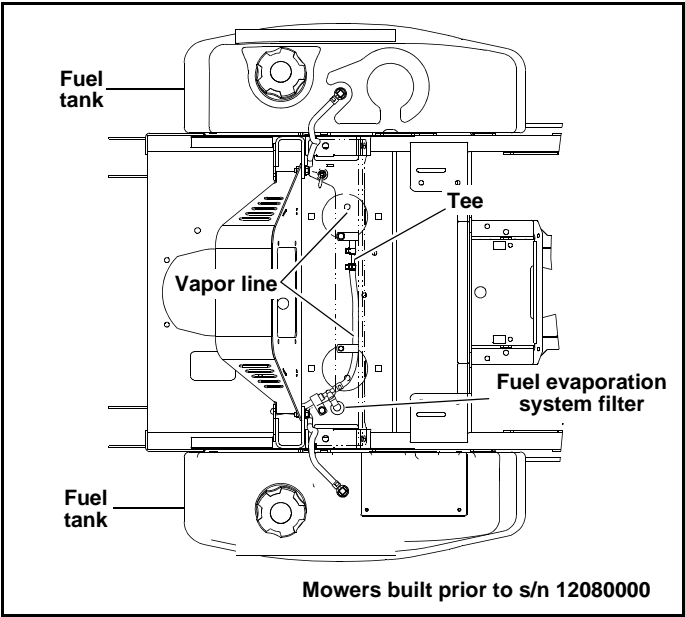

Figure 5-7
**On mowers produced prior to s/n 12080000** the vapor line is connected to the port in the top of the fuel tank. It connects the fuel tank to the engine's vapor port. Figure 5-7